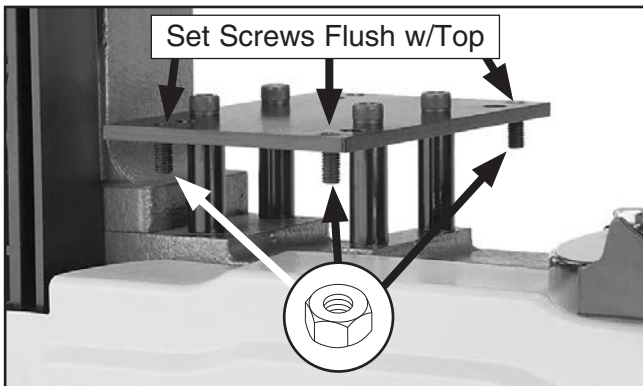

Figure 10. Set screws installed in lever board (3 of 4 shown).
- Thread the four set screws into the lever board from underneath until they are flush with the top of the lever board (**Figure 10**), then thread the M8-1.25 hex nuts up the set screws and against the lever board.